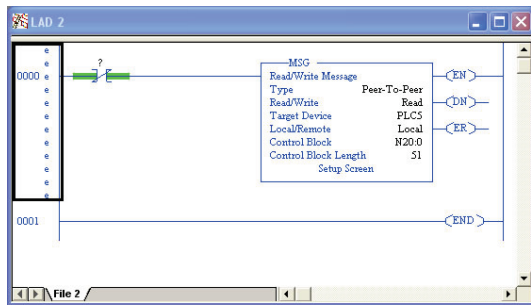

Figure 73: PLC Program after MSG Instruction Configuration
- f) Close the dialog box. At this point, the program should appear as shown in Figure 73.